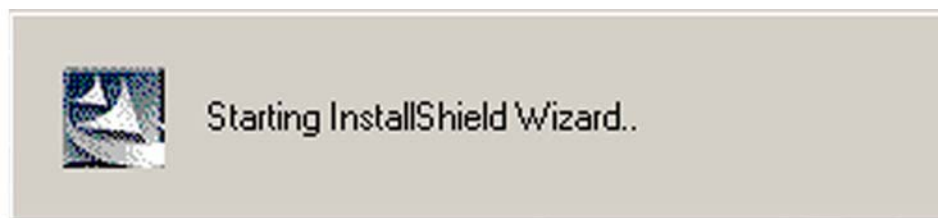

Figure 7-24: AC`97 Audio Driver Install Shield Wizard Starting
Step 4: Once you double click the **Setup** icon, the install shield wizard for the audio driver starts. See **Figure 7-24**.